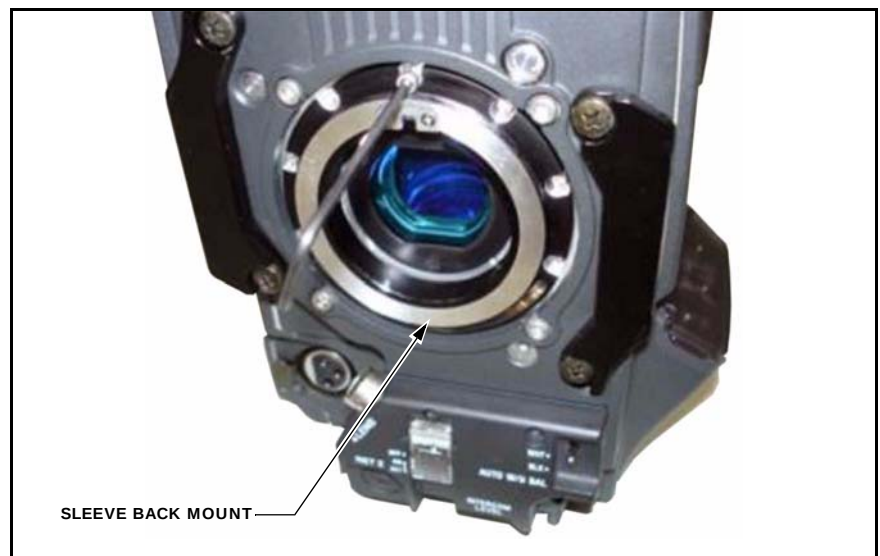

Figure 5
5. Affix the new sleeve back mount with the seven bolts. (See Figure 5.)